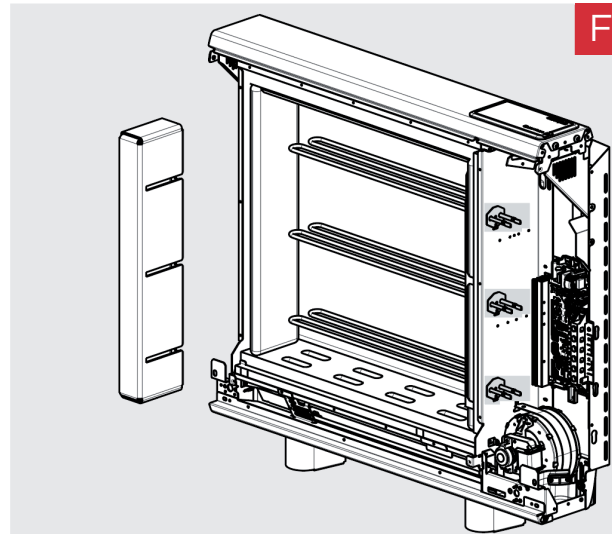

Fig. 12
12. Remove the cardboard element support and dispose of. (Fig. 12)